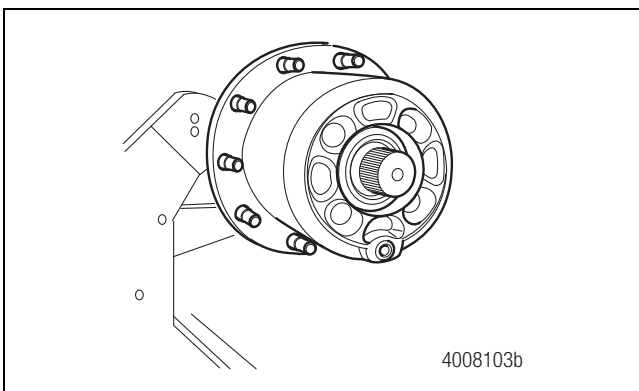

Figure 3.4
5. Pull to remove the axle shaft from the housing. Figure 3.4.